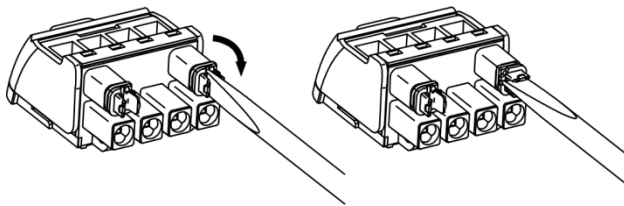

Figure 10: Setting the coding element
- Rotate both coding elements on the female plug clockwise (see Figure 10 "Setting the coding element").